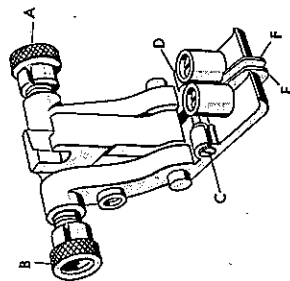

Fig. 55
11. If work is to be handled from the left side of the attachment, place material under the left hand presser foot, so that the fold is resting against guide wing "E" (Fig. 55). Lower presser foot bar, and operate machine by hand, to see whether needle pierces every edge of fold. If needle does not pierce fold, turn knurled knob "B" to the back (away from you), thus bringing left hand presser foot within range of needle.
12. After having set attachment, proceed to sew with #4 zig-zag stitch, and guide edge of fold against guide wing "E" (Fig. 55).
Note: If work is to be done from the right side of the attachment, follow same procedure, and use screws "A", "B", and wing guide "F" (Fig. 55).
Note: To "blind hem" rayons, silks, and other fine materials, it is recommended that tissue paper be used under material. After wing guide is set, turn screw "C" (Fig. 55) toward the needle to act as needle guide and to prevent needle from deflecting and piercing too much of the fold.